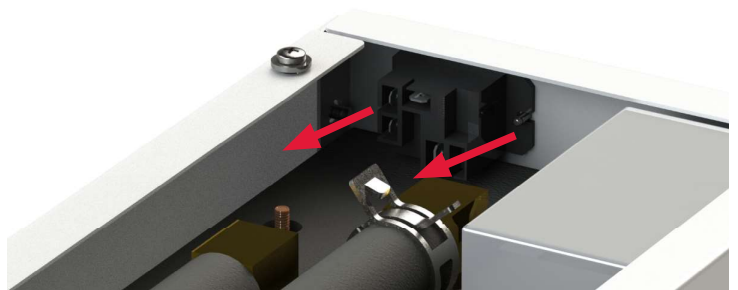

Figure 56
5. Remove the two wires secured to the defective electric heating element by releasing the screw terminals (Figure 56).
4. Remove the defective relay by drilling the rivets that hold the relay in place (reference Figure 56) and discard the defective relay.